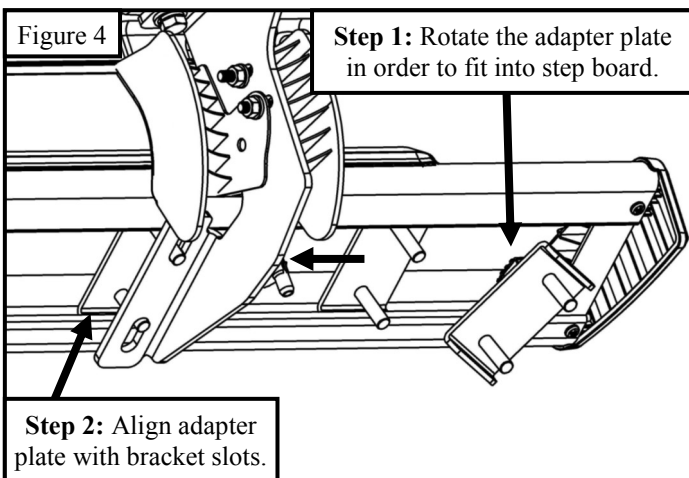

Figure 4
6. **For Part Numbers 28-51005 and 28-51015:** Locate (1) driver side step board (Item 1) and (6) M8 square head bolts (Item 17). Slide the M8 square head bolts through the slots underneath the step board and align with the previously installed mount brackets. Repeat for passenger side. See **Figure 4**.